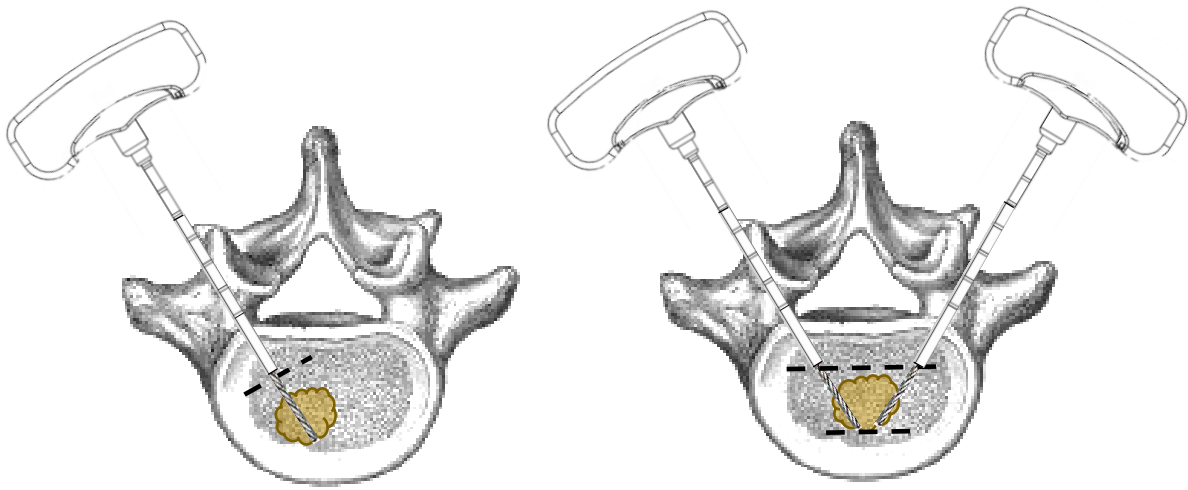

Figure 13 – Rear Limits When Using Drill
- The front and rear boundaries must always be respected (Figure 13).